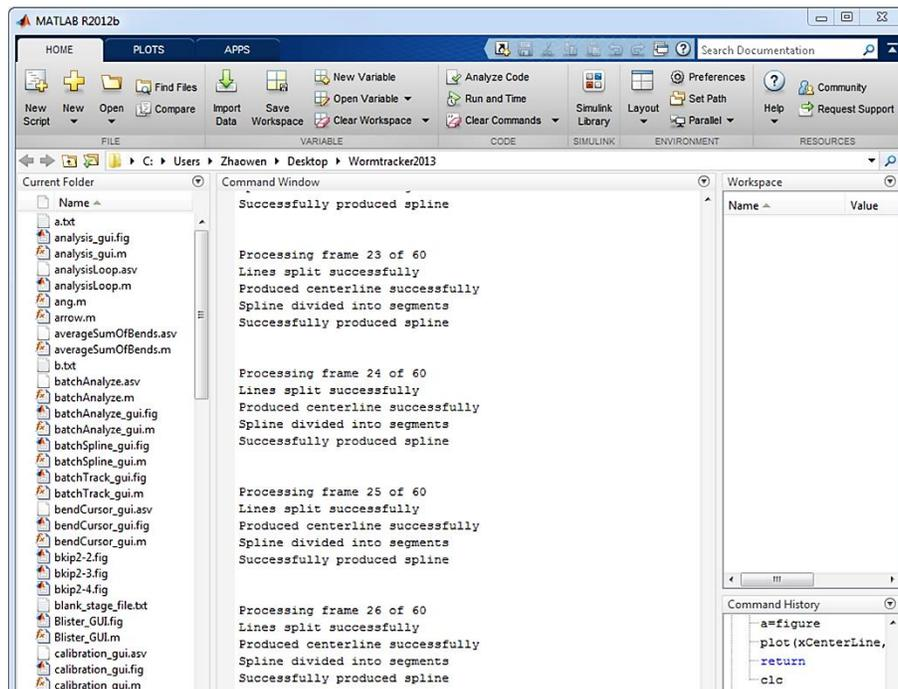

Figure 8. Matlab command line window.
5. After closing the initial detection window, the software will run on its own for a period of time. Each frame typically takes 1 second on a Core i7-920 PC but longer if the image is more challenging. During this period of time, the *Fit Spline* user interface appears to be stationary. The progress of spline fitting is displayed real-time in the Matlab command line window (**Figure 8**). When the analysis is finished, a spline is displayed over each worm image with the head marked by an 'x' sign (**Figure 9**).